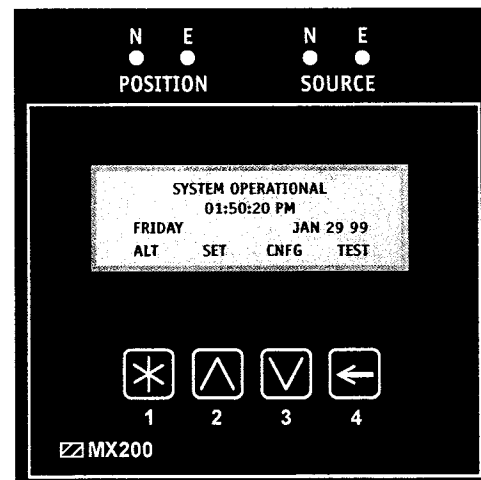

Figure 2
B. LCD and Keypad located on the exterior of the door (see figure 2)